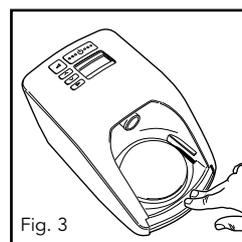

Fig. 3
- d. To attach the water chamber to the device, press down the finger guard and slide the chamber on (Fig. 3 and 4).